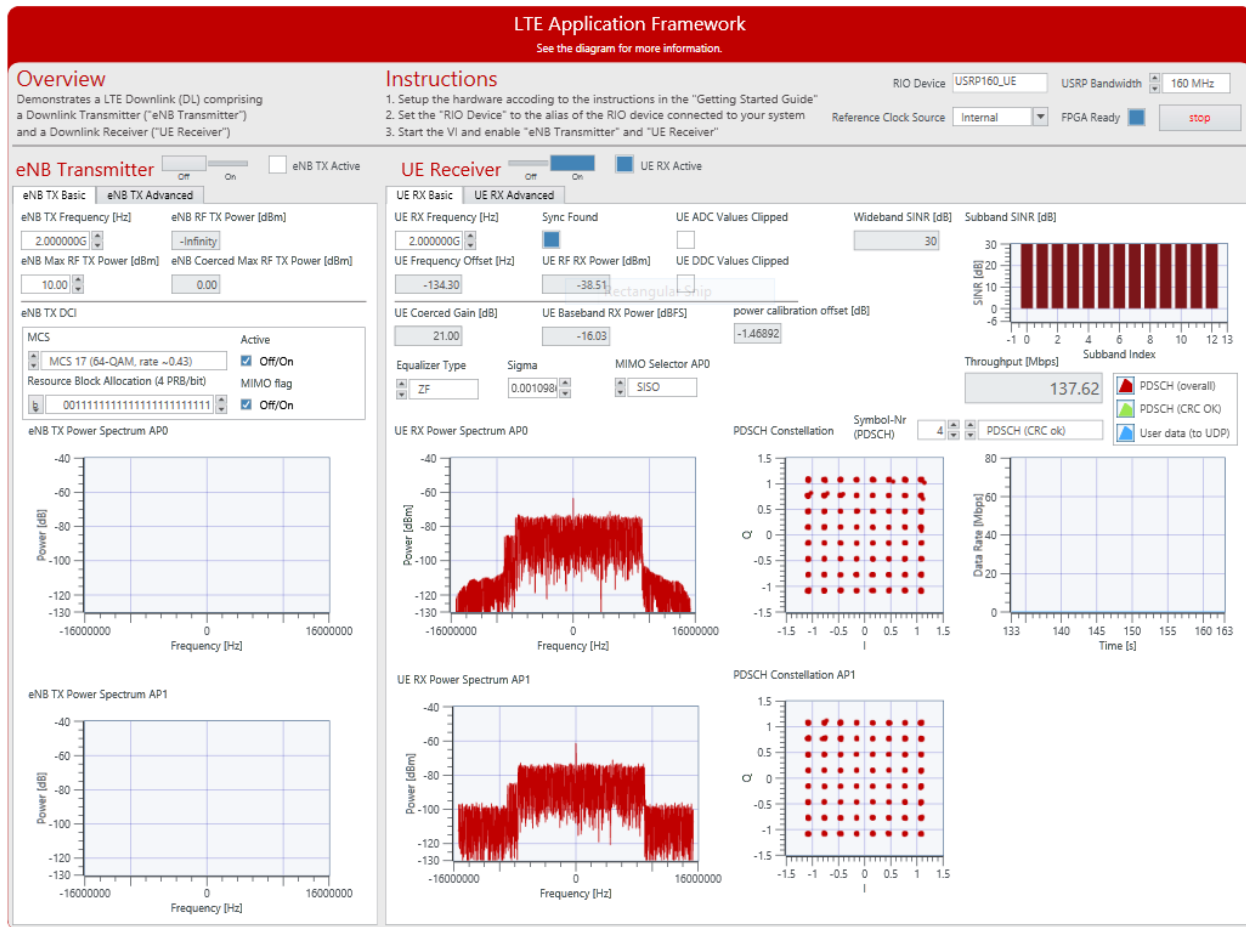
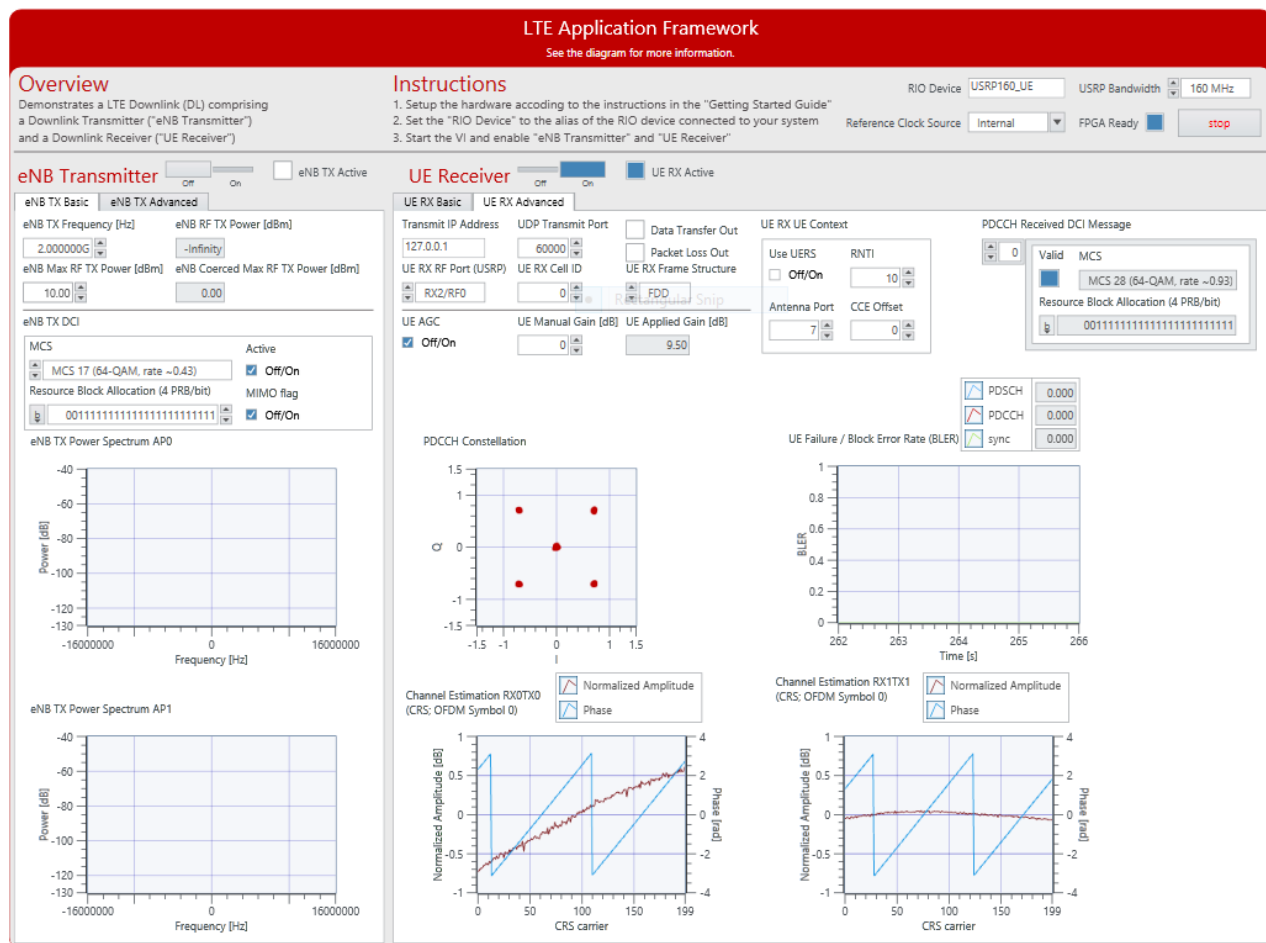

Figure 5: Front panel of UE (UE RX Basic Tab)
Figure 6: Front panel of UE (UE RX Advanced Tab)
2. Open the host top-level "LTE Host DL MIMO.gvi" located in **MIMO Extensions** folder. The front panels of this VI is shown in Figure 5 and Figure 6. The description of all controls and indicators can be found in the **Getting Started Guide of LTE Application Framework 2.0.1**. The extra controls and indicators for MIMO are described in the following section.
If the MCS in the eNodeB has been configured to MCS number 28 (64 QAM, rate ~ 0.93), the achieved throughput is 137.62 Mbps as it is shown in Figure 5. If the Resource Block Allocation (4PRB/bit) in the eNodeB TX Basic tab has been configured to all of ones, the achieved throughput is 150 Mbps.